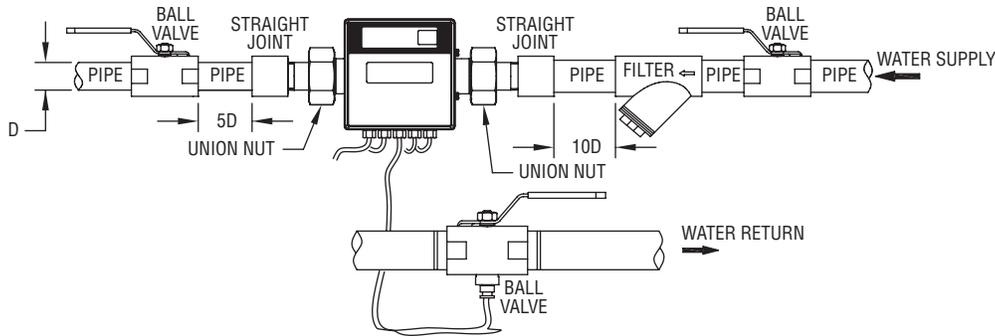
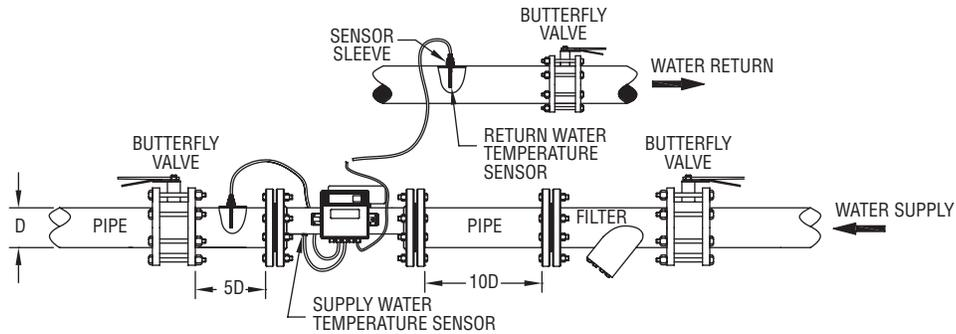

Figure 1: Installation diagram for TUF-150/400
Figure 2: Installation diagram for TUF-500/2000
1. Install the meter as shown in either Figure 1 or Figure 2.